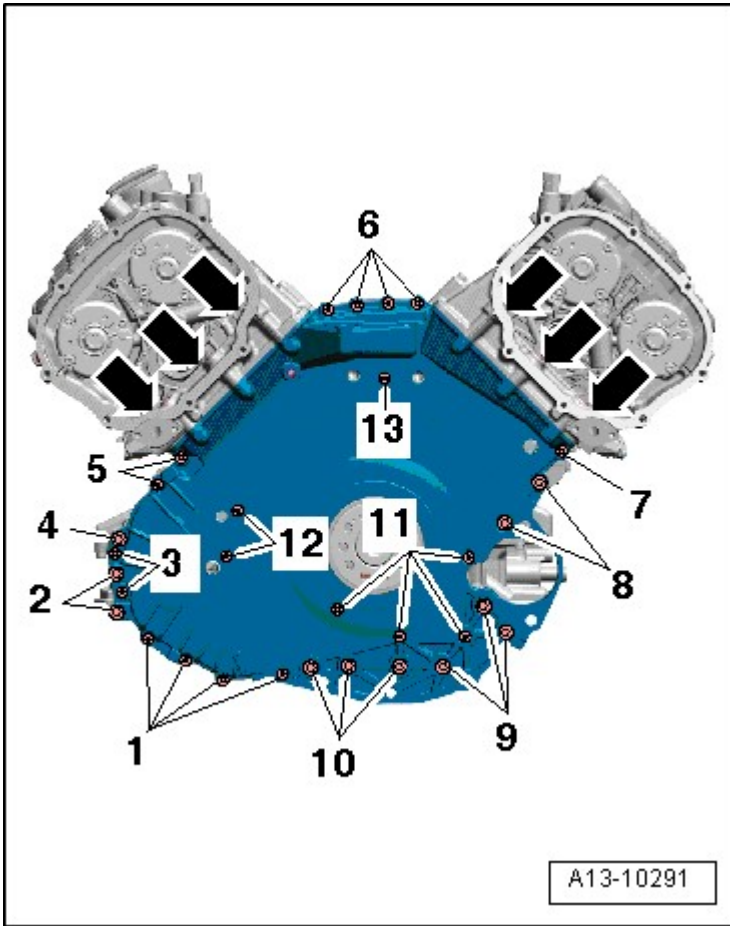

Fig. 4: Identifying Bolts And Lower Timing Chain Cover
- Tightening specification and sequence, refer to **Fig. 4**